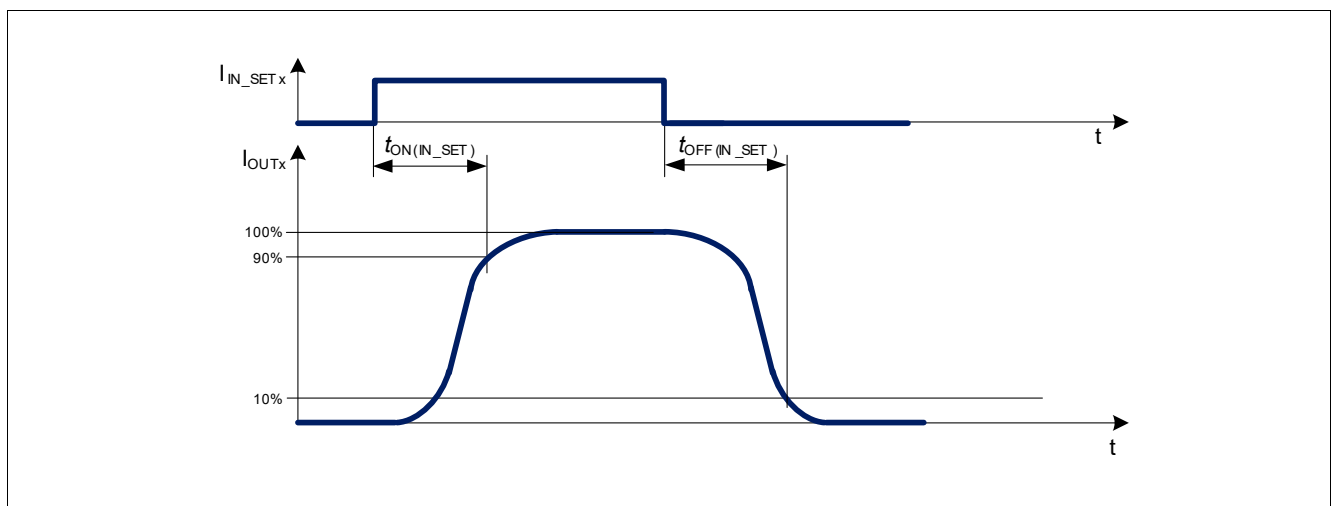
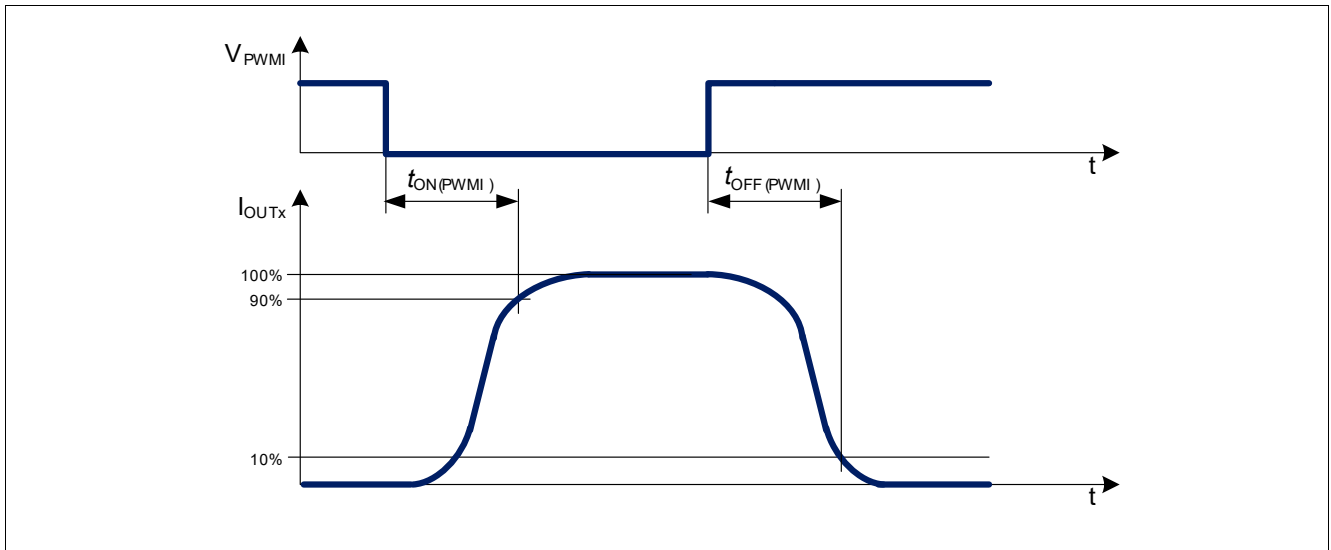

Figure 10 IN_SET turn on and turn off delay timing diagram
Figure 11 PWM turn on and turn off timing diagram
In the following diagrams (Figure 10, Figure 11) the influences of different driving inputs on output activation delays are shown.
- 2) Refer to Figure 10
- 3) Refer to Figure 11